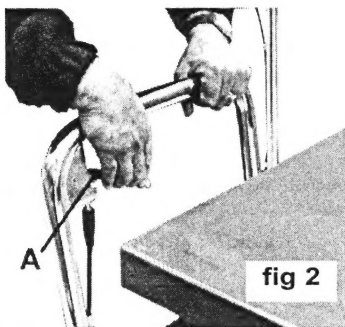

fig 2
- 4.1.1. Before using the truck for the first time purge any air from the hydraulic circuit by pumping the foot pedal 10 to 15 times whilst holding the release lever (fig 2.A) in.
- 4.1.2. Test the truck by releasing the lever which will close the hydraulic valve. Pump the foot pedal (fig 1.4) and raise the truck platform to its highest position and then pull the valve lever (fig 2.A) to lower the platform, (the platform may be slow to descend immediately from its highest point). If the truck is in full working order it is now ready to use.